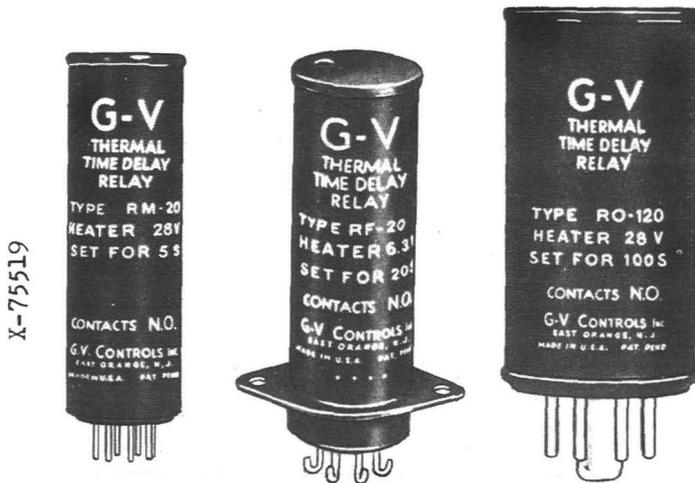

Fig. III-6 - G-V Thermal Relays
The G-V controls offer a line of sealed adjustable thermal relays that differ from the thermal relays discussed previously in that they do not depend on the expansion of members composed of two dissimilar metals. These relays depend on the expansion of steel members, ribbon tapes, or wires. Fig. III-6 shows the general appearance of the relays. The relays are equipped with a single-make (NO) or a single-break (NC) contact.